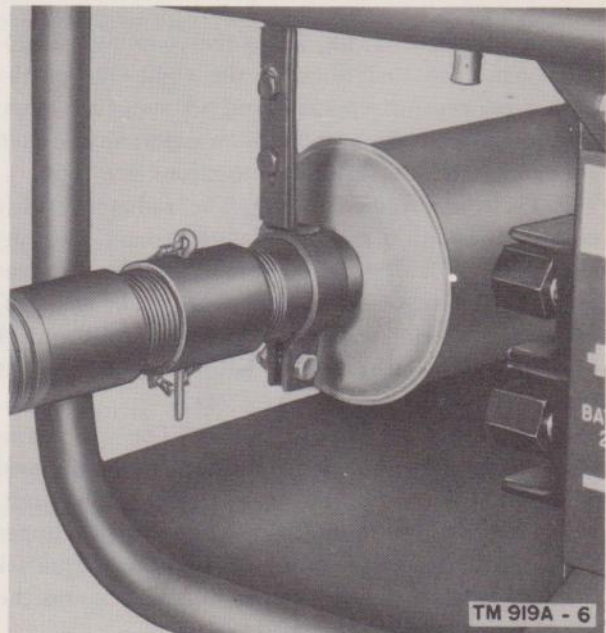

Figure 6. Exhaust tube connection to muffler.
*a. Mounting on Foundation.* Determine whether the equipment is to be installed indoors or outdoors, and follow the instructions in subparagraphs (1) or (2) below, as applicable.
- (1) For permanent indoor installation, fasten the set to the floor or foundation. Four holes are located in the mounting pads on the bottom four corners of the lower frame. Fasten the set to the floor with  $\frac{1}{2}$ -inch bolts or lag screws of proper length.
- (2) For outdoor installation, locate the set on level ground. If this is impossible, the alternator end of the set must be the lower end.
*b. Connecting Exhaust Tube.* For indoor operation, connect the exhaust extension tube to the muffler (fig. 6). Extend the tube to an exterior wall by the most direct route with as few turns as possible. Pitch the tube downward so all condensate will
- (1) Check the tools, spare parts, installation equipment, and all major components with the packing lists.
- (2) Inspect the over-all unit carefully for damage. Give particular attention to the following: Examine the carburetor, magneto, air cleaner, and fuel pump for dents and breakage. Check the fuel line from the fuel pump to the carburetor for loose connections and kinks. Examine the instruments and controls for damage. Check all wiring for torn insulation and broken wires. If any damage is noted or if the equipment does not check with the packing lists, fill out and forward DD Form 6 in accordance with the instructions in paragraph 2.